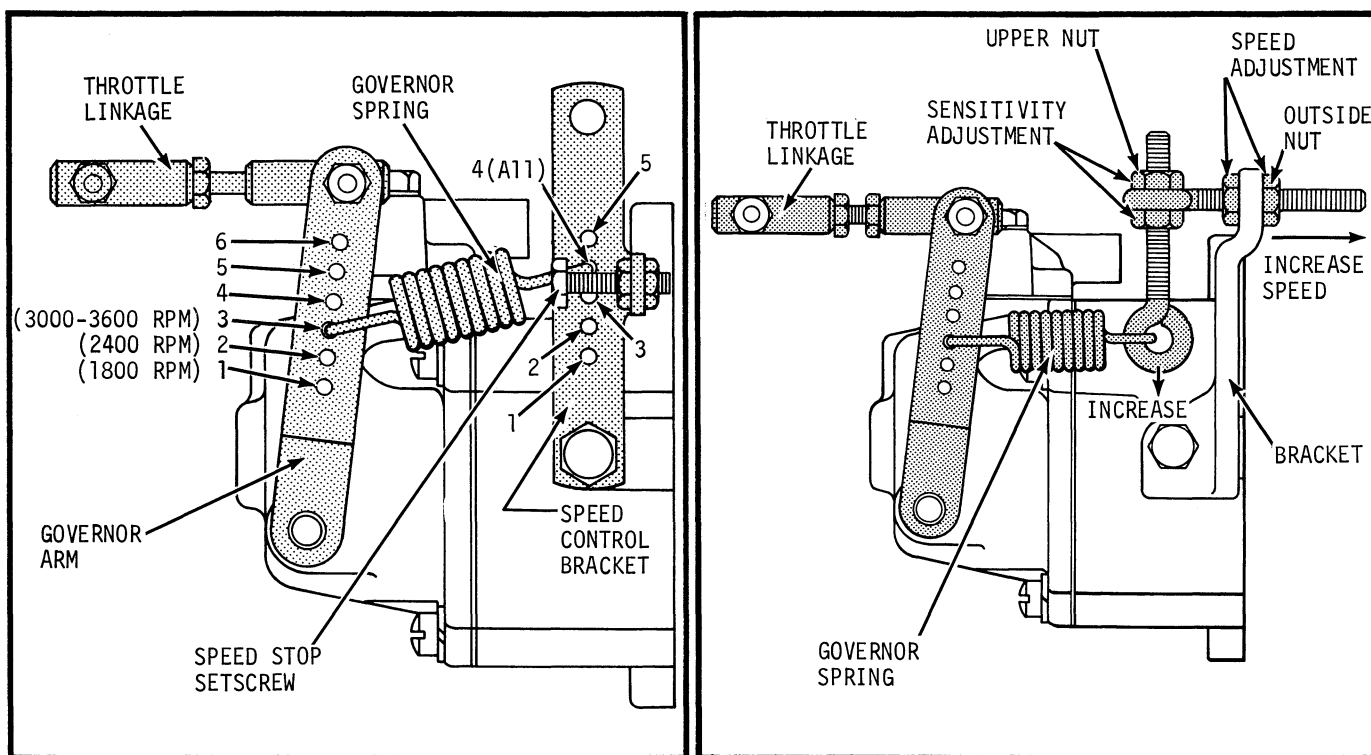

FIGURE 5-2 (A) -- K482, K532 VARIABLE SPEED GOVERNOR      FIGURE 5-2 (B) -- K482, K532 CONSTANT SPEED GOVERNOR
**Speed Adjustment:** On most engines with the variable speed type governor (See Figure 5-2, View A), maximum speed is set at 3600 RPM no load. On some applications, a lower maximum speed is specified --make sure that the allowable speed for the particular application is not exceeded. Use the following procedure to readjust speed limit on engines with the variable speed governor:
With the Constant Speed type governor (Figure 5-2 -- View B), the throttle shaft is fixed at a definite length to establish a specific operating speed such as 1800 RPM for 60 cycle electric plants. Any variation in speed causes frequency changes in output of the generator--for this reason, only slight readjustment of speed is possible with constant speed governors. To increase speed, loosen the inside speed adjusting locking nut and tighten the outside nut to draw the eye of the bolt closer to the bracket --to decrease speed, loosen the outside nut and tighten the inside nut. After speed is correct, tighten the nut that was loosened to lock the eye bolt at the new setting.
On engines with Variable Speed governors, sensitivity can be adjusted by repositioning the governor spring in different holes in the governor arm. Normal hole settings for different operating speeds are shown in View A of Figure 5-2. To make governor control more sensitive, move spring hook into holes higher up on the governor arm. To make governor control less sensitive, move spring hook in holes spaced further apart. Move spring one hole at a time and recheck sensitivity and speed after each move.
With Constant Speed governors, sensitivity is changed by repositioning the sensitivity adjusting eye bolt as shown in Figure 5-2--View B. To make governor control more sensitive, loosen the upper nut and tighten the lower nut to force the eye bolt downward. To make control less sensitive, draw the eye bolt upward by loosening the lower nut and tighten the upper nut. Recheck speed after making sensitivity adjustment. Retighten nut that was loosened to lock eye bolt at the new setting.